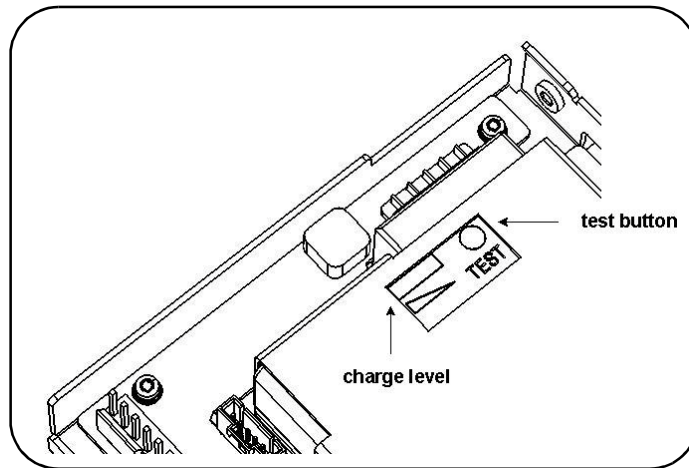

Figure 7. Test Button and Charge Indicator.
7. On the Battery assembly, push and hold the white test button while observing the charge-level indicator (Figure 7). The charge level should be at least 25%. It should charge to 100% after installation when AC power is applied.